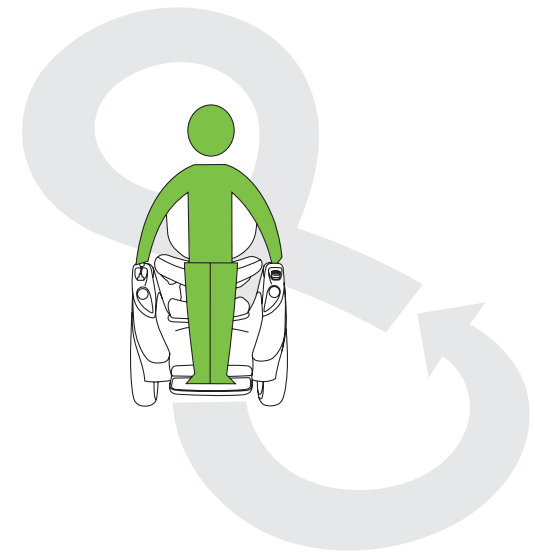

Figure 27: Directional riding with the Joystick in figure 8 patterns.
5. Ride in circles and then figure 8 patterns of approximately 2m (6.5ft) in a controlled and purposeful manner. (Figure 27)